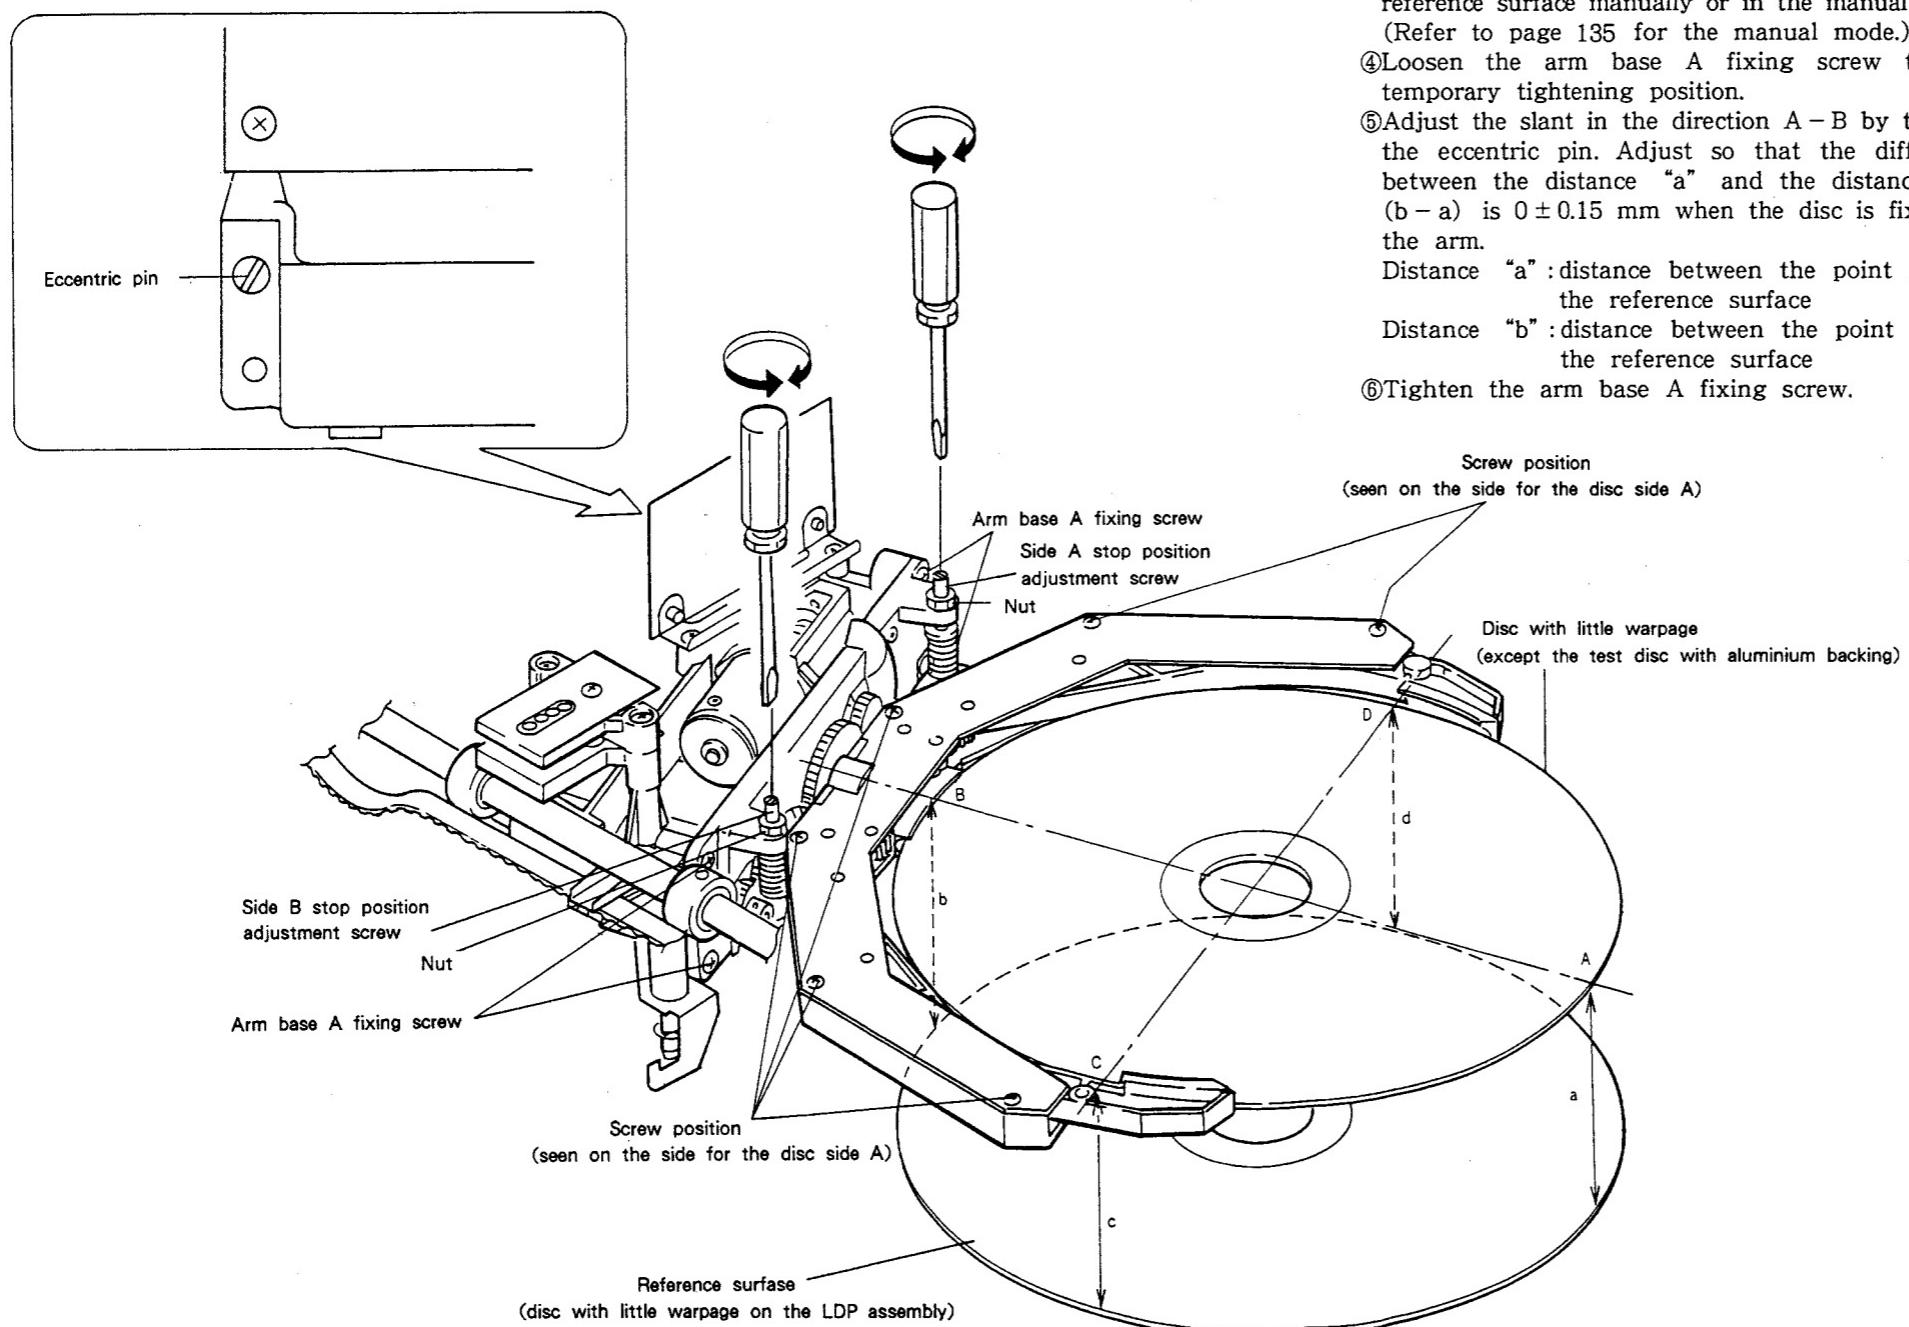

Fig. 3-5-9
3.5.5.1 Adjustment of the arm horizontal position (direction A - B in Fig. 3-5-9)
- ① Place a disc with little warpage (such as a test disc) on the LDP assembly and fix it with the clamp. The surface upper side of the disc is regarded as the reference surface. (Or, remove the LDP assembly and place a flat plate on the three bosses for the LDP assembly attachment. The surface of the plate is regarded as the reference surface.)
- ② Place a disc with little warpage (except a test disc with aluminium backing since it is heavier than a normal disc) so that the disc is fixed by the arm.
- ③ Move the arm a few centimeters above the reference surface manually or in the manual mode. (Refer to page 135 for the manual mode.)
- ④ Loosen the arm base A fixing screw to the temporary tightening position.
- ⑤ Adjust the slant in the direction A - B by turning the eccentric pin. Adjust so that the difference between the distance "a" and the distance "b" ($b - a$) is 0 ± 0.15 mm when the disc is fixed by the arm.
- ⑥ Tighten the arm base A fixing screw.
3.5.5.2 Adjustment of the reverse rotation stop position (direction C - D in Fig. 3-5-9)
- ⑦ Prepare as described in steps ① and ② in the adjustment of the arm horizontal position. Move the arm approximately 15cm above the reference surface.
- ⑧ Set the arm so that the side for the disc side A faces upward. (Screw positions on the arm are seen.)
- ⑨ Loosen the nut of the side A stop position adjustment screw (the right one when seen from the arm side).
- ⑩ Adjust the slant in the direction C - D by turning the side A stop position adjustment screw. Adjust so that the difference between the distance "c" and the distance "d" ($d - c$) is 0 ± 0.15 mm when the disc is fixed by the arm.
- ⑪ When the adjustment is completed, tighten the nut of the side A stop position adjustment screw.
- ⑫ Turn over the arm manually or in the manual mode so that the side for the disc side B faces upward.
- ⑬ Loosen the nut of the side B stop position adjustment screw (the left one when seen from the arm side).